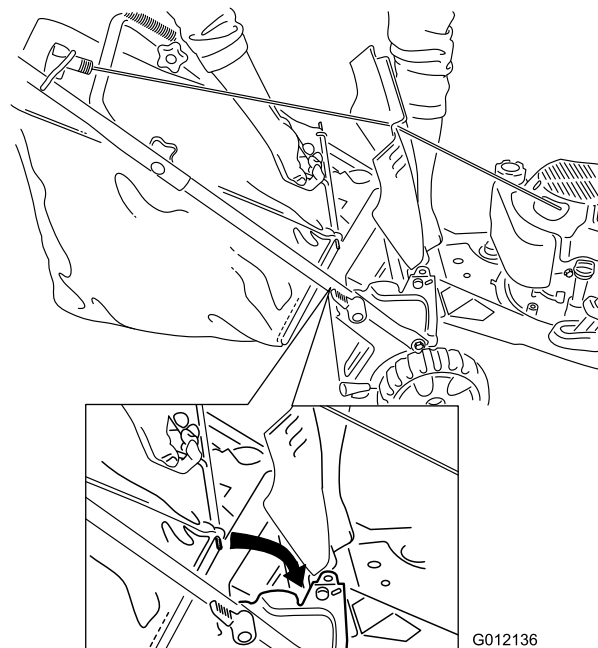

Figure 19
2. Raise and hold up the rear deflector, install the bag in the notches, and lower the rear deflector (Figure 19).